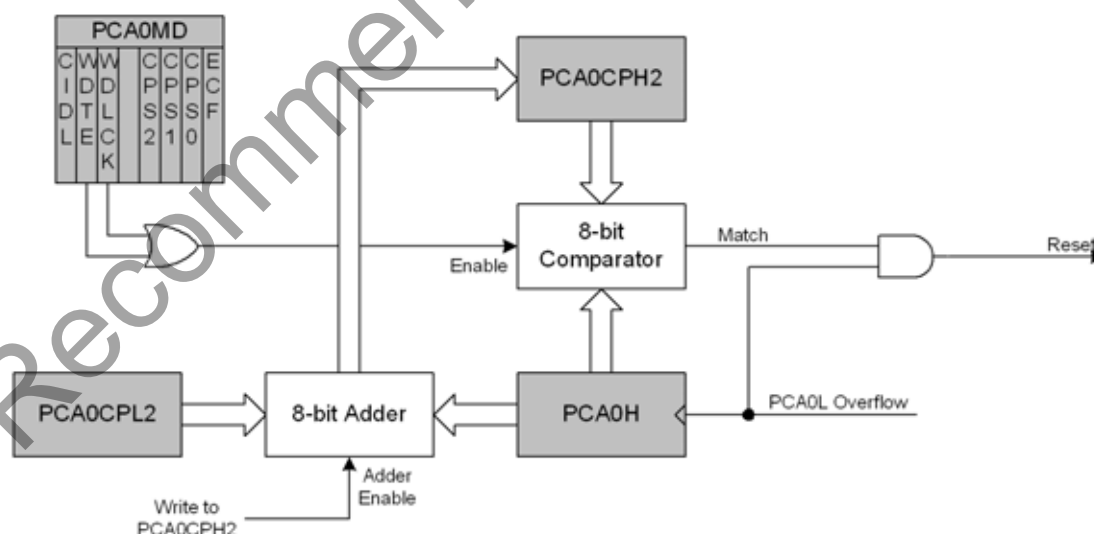

Figure 32.11. PCA Module 2 with Watchdog Timer Enabled
- While the WDT is enabled, writes to the CR bit will not change the PCA counter state; the counter will run until the WDT is disabled. The PCA counter run control bit (CR) will read zero if the WDT is enabled but user software has not enabled the PCA counter. If a match occurs between PCA0CPH2 and PCA0H while the WDT is enabled, a reset will be generated. To prevent a WDT reset, the WDT may be updated with a write of any value to PCA0CPH2. Upon a PCA0CPH2 write, PCA0H plus the offset held in PCA0CPL2 is loaded into PCA0CPH2 (See Figure 32.11).